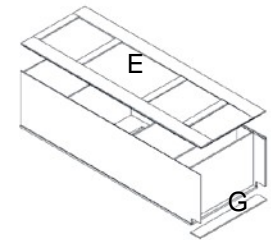
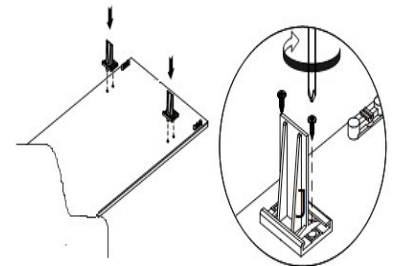

Figure 5
Figure 6
4. Installing the Back Panel and Toe Kick (Figure 5): Before you start this step, put the back panel (E) on a flat surface facing upward. Install the drawer rail holders (L) in the pre-spotted area on the back panel (Figure 6). The opening of the holders should be facing towards each other. Secure them with 2 round head screws (Figure 6). Then put the back panel (E) at rear of side panel (B). Align and lock each cam lock. Install the Toe Kick (G) by locking the cam lock at both ends